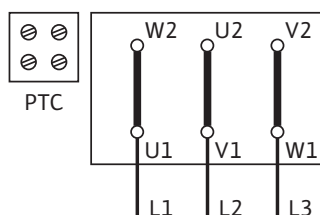

Fig. 45: Y-Δ-start (standard)
The connection diagram for the electrical connection is in the terminal box (also see Fig. 45/46).
- The mains connection to the terminal board is dependent on the motor power  $P_2$ , the mains voltage and the activation type. The recommended switching arrangement of the connection bridges in the terminal box should be taken from the following list "Table 4: Connection terminal assignment" on page 46 and Fig. 45/46.
Y-Δ start (default)	Remove connection bridges (Fig. 45)